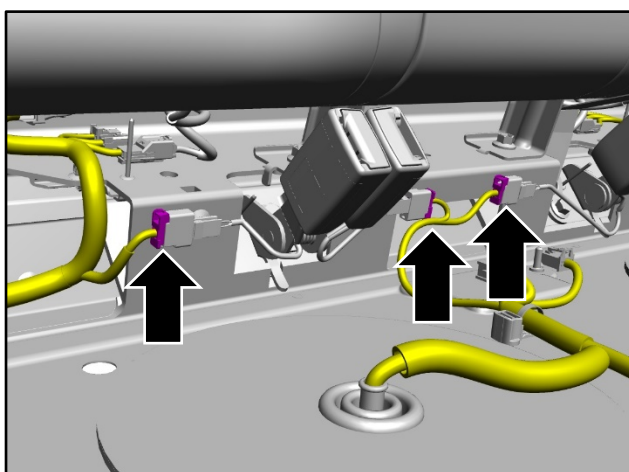

Figure 9
16. Connect the three electrical connectors (refer to Figure 9).